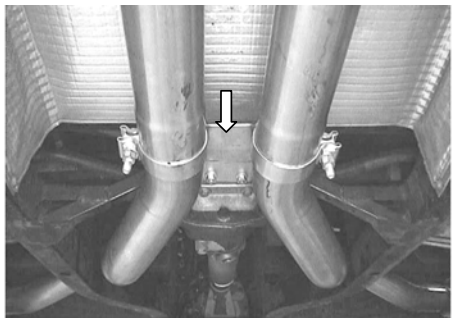

Figure 3
4. Place the bracket clamp assembly over the expanded end of resonator muffler assembly and set it into position. Using the original hardware, secure the bracket/clamp assembly to the vehicle as shown in figure 3. **DO NOT** tighten the clamps.